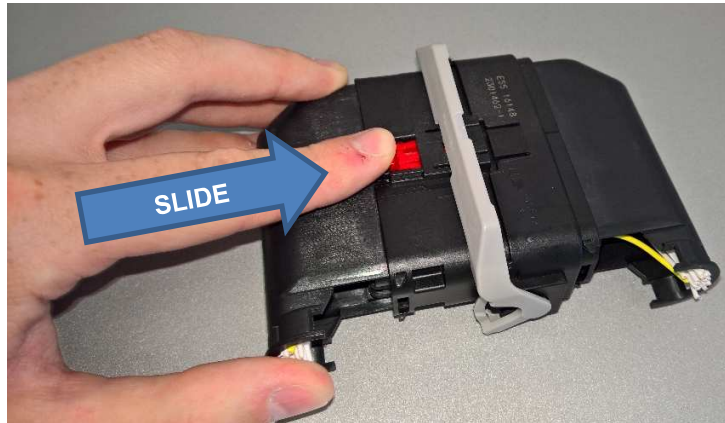

Figure 13
7. The CPA can be engaged by sliding it toward the plug connector. See Figure 13.